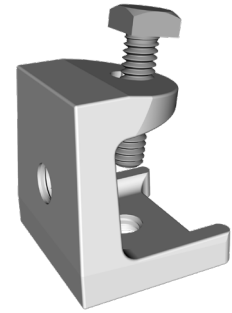

Figure 16. Beam clamp
2. Beam clamp supports 1/4" threaded rod as shown in Figure 16. (rod and horn mounting hardware not included).